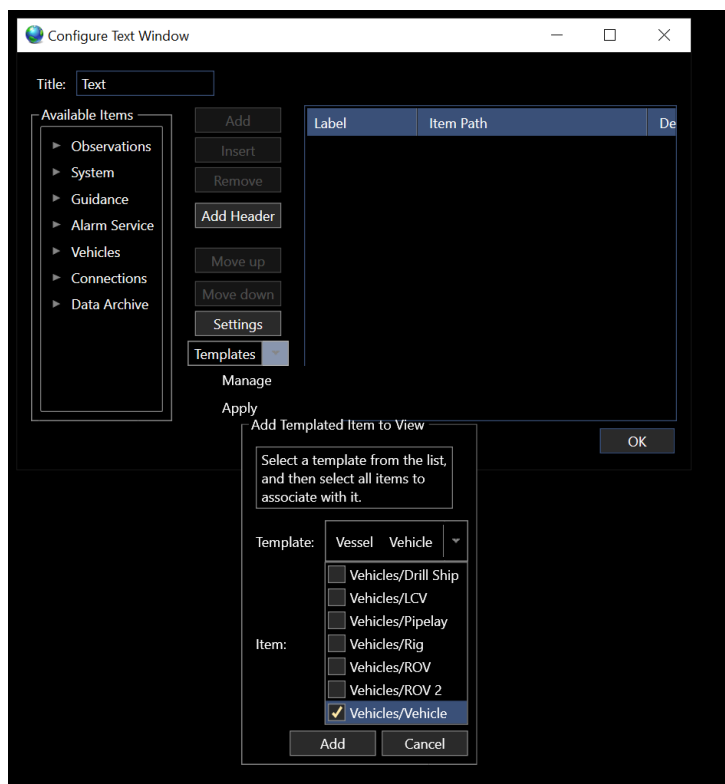

FIGURE 8-18 WINDOWS - APPLY TEXT TEMAPLATE DIALOG
1. From the text window that the template is to be applied to, click the  drop-down and click on Apply to expand the dialog to display a “Add a Templated Item to View” dialog. See Figure 8-18